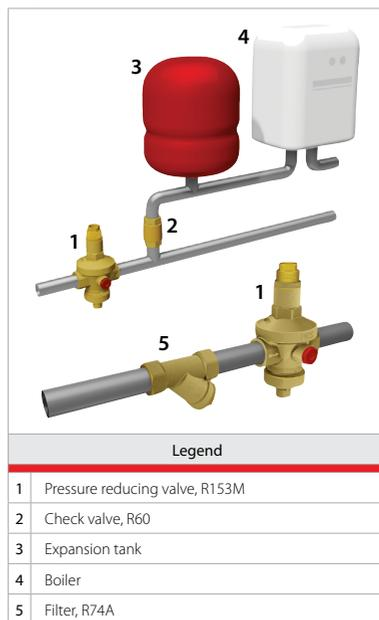

Fig.2
- If the pressure reducing valve is installed at the inlet of boilers, heaters, heating elements or tanks for hot water, it is indispensable to install an expansion vessel for sanitary use after the pressure reducing valve even if a check valve has already been installed (see fig.2)